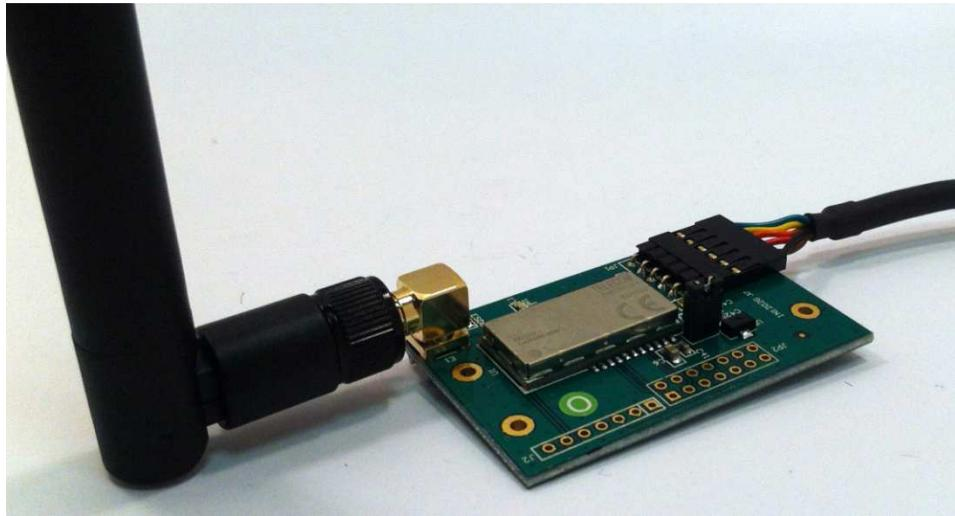

**Figure 2- FTDI Cable Connection**
**Note:** This cable has no orientation key, so there is a chance that it can be plugged in the wrong way. The cable crimps Cloud-On-Chip be visible on the upper side of the black Molex connector, see Figure 2- FTDI Cable Connection.